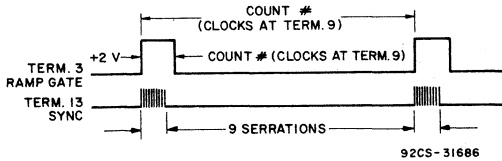

Fig. 6 - Synchronous non-coincident divider ratio and ramp gate pulse width (applies to test referenced to Note 20).
- Number of clocks occurring within ramp gate period (see Fig. 6).